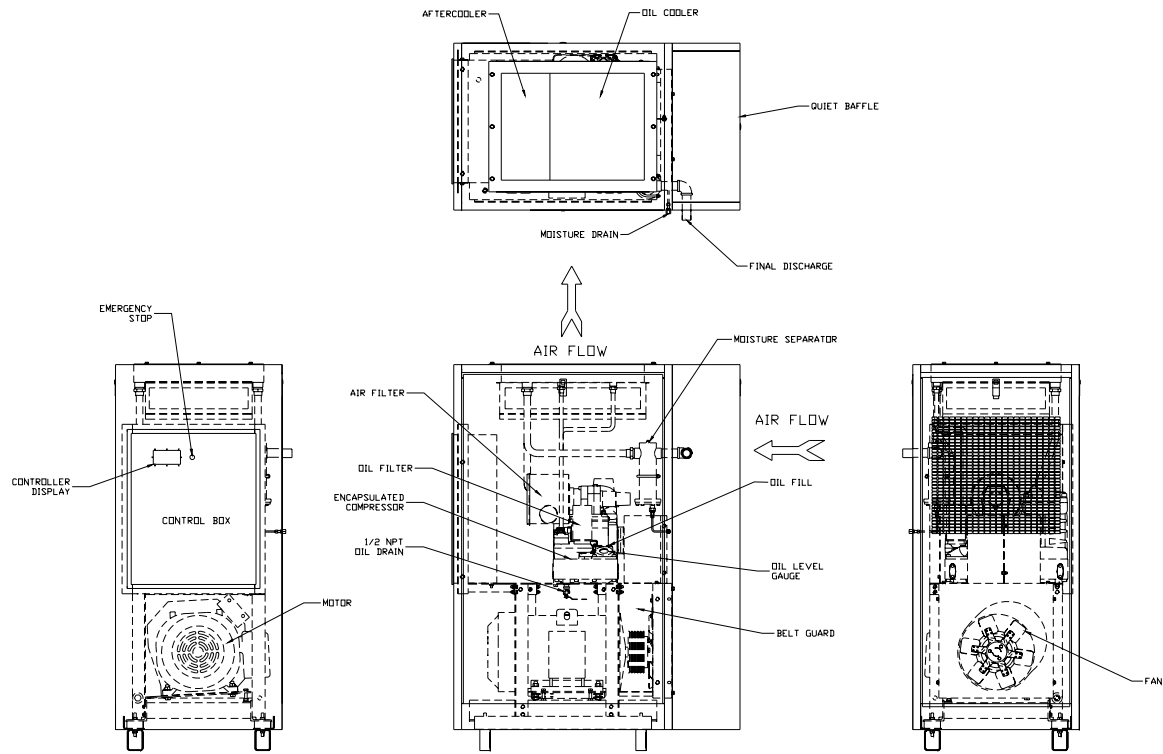

Figure 1-2 – COMPRESSOR ILLUSTRATION
AIR-COOLED UNIT - A combination oil/aftercooler is supplied as standard equipment on all air-cooled units. The air-cooled unit with the standard enclosure requires sufficient flow for the compressor oil/aftercooling system and electric motor cooling (Figure 1-2, page 2). Air is drawn into the unit above the motor and discharged through the cooler. Do not block the air flow to and from the unit. Allow three and one half (3-1/2) feet to the nearest obstruction on the control box end of the unit. Allow two (2) feet to the nearest obstruction above and on other sides of unit.